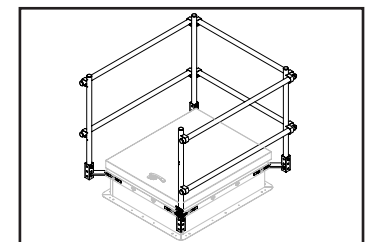

FIG. 3
4. Install the horizontal rails, making sure they are correctly located. (Fig. 3)